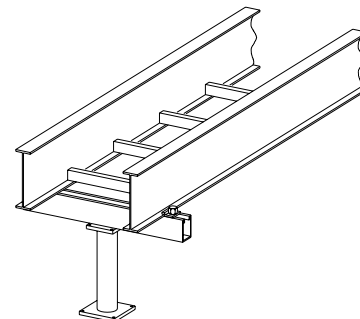

Figure 4.8A
4.2.3 Floor and Roof Installations (See Figures 4.8A through 4.8C.)